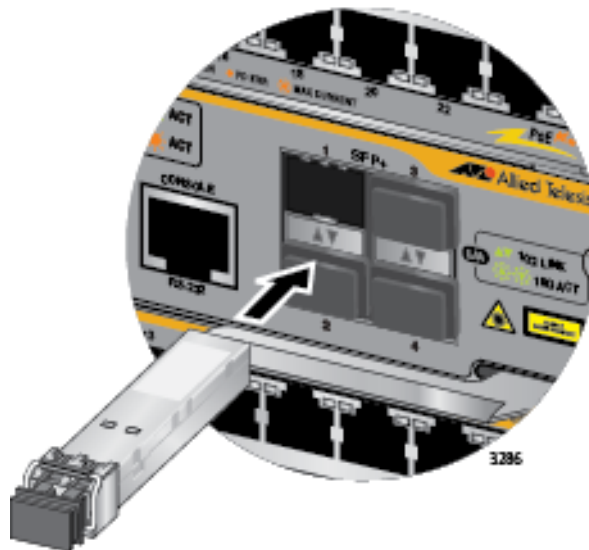

Figure 97. Installing an SFP+ Transceiver in the AT-SBx81CFC960 Controller Fabric Card
3. Slide the transceiver into the slot until it clicks into place, as shown in Figure 97.